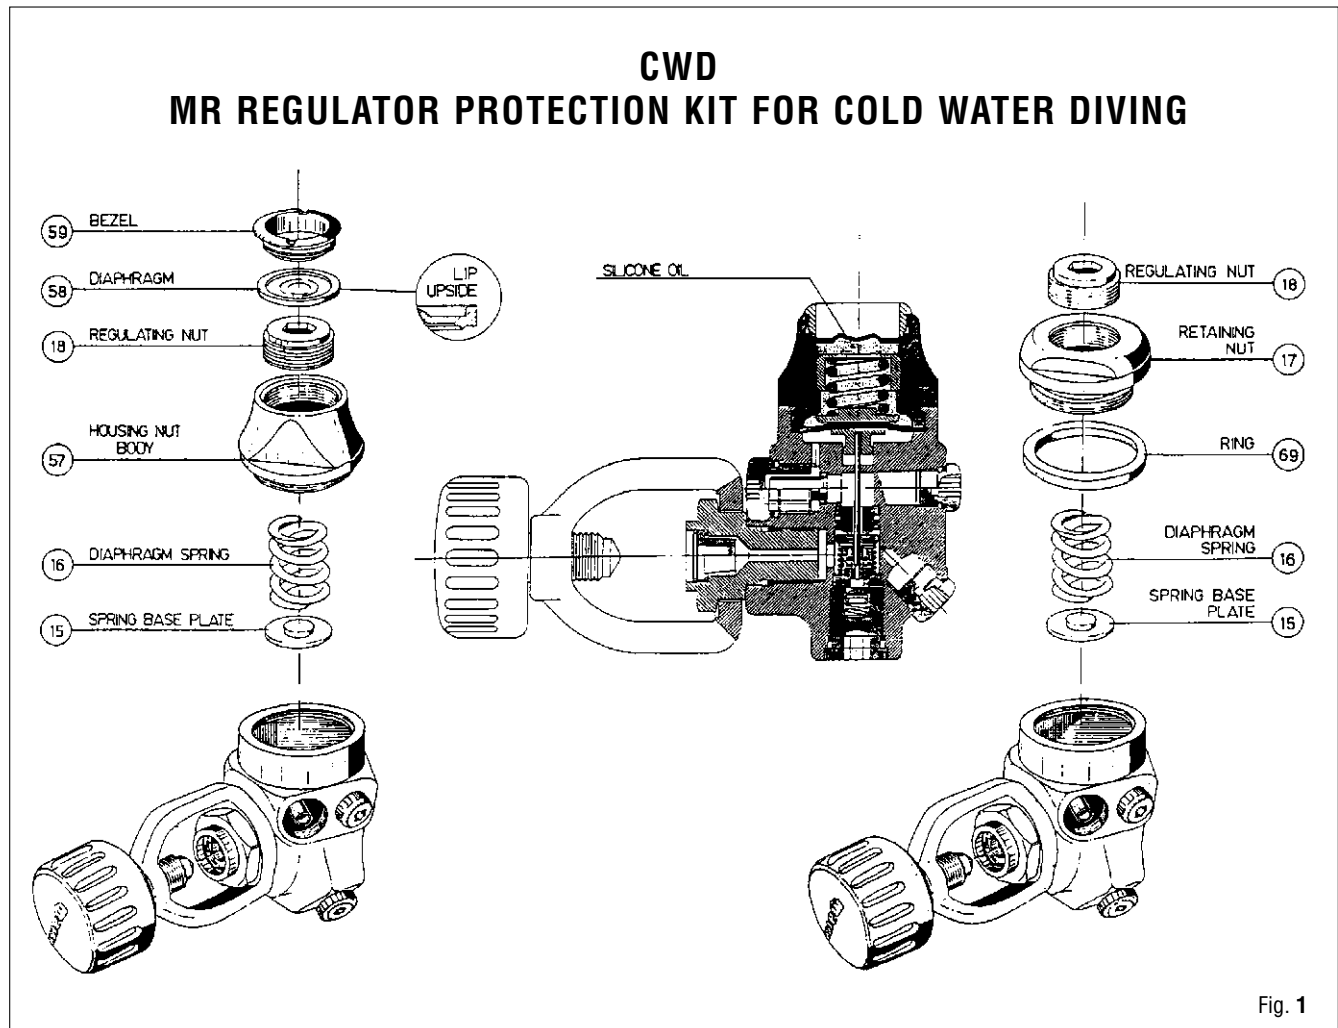

Fig. 1
2. Remove regulating nut (18) with hex wrench (B13) and remove diaphragm spring (16) (Fig. 1).
3. Remove retaining nut (17) and shock ring (69) with wrench (B16) then remove spring base plate (15) (Fig. 1).
5. Lubricate both sides of the spring base plate with the silicone oil provided in the CWD kit then place spring base plate (15) on diaphragm.
6. Lightly lubricate the sealing edge of retaining nut (17) with the silicone oil provided in the CWD kit and tighten into the first stage body until snug (Approx. 25 Ft/lb. 34 N/m.).
7. Lubricate the diaphragm spring (16) with the silicone oil provided in the CWD kit, then place it on the base plate.
8. Place the regulating nut (18) over the diaphragm spring. Using tool (B13) tighten regulating nut until it is just below the inside shoulder of the retaining nut.